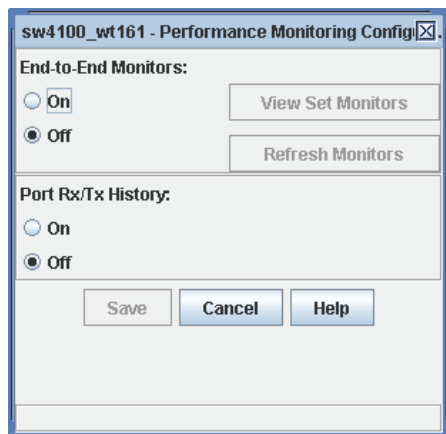

Figure 8-2 Configuring Performance Monitoring
The Performance Monitoring Configuration dialog displays, as shown in Figure 8-2.
5. Click **Close** to return to the Performance Monitoring Configuration dialog (see Figure 8-2).
The Performance Monitoring Configuration dialog displays (see Figure 8-2 on page 8-6).